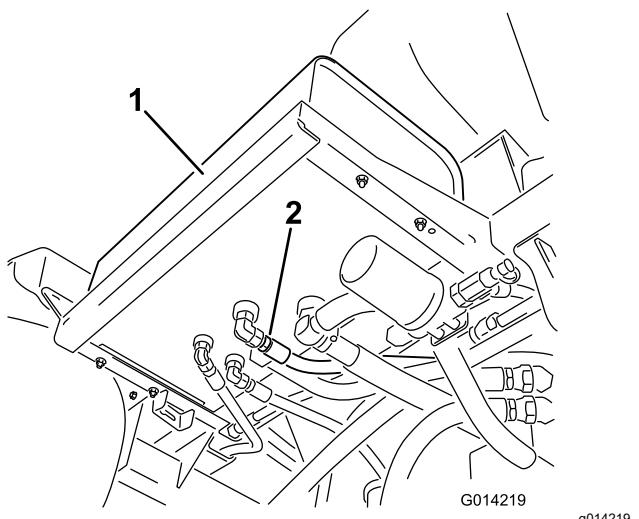

Figure 145
2. Clean the area around a hydraulic-hose fitting on the bottom of the hydraulic-fluid tank (Figure 145).
4. Remove the hose fitting from the tank, allowing the fluid to drain into the pan (Figure 145).